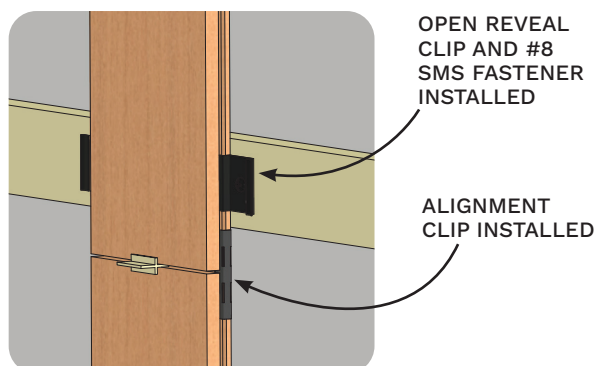

Figure 8
- Install an Open Reveal clip and Alignment clip on the opposite side of the member (see Figure 8).